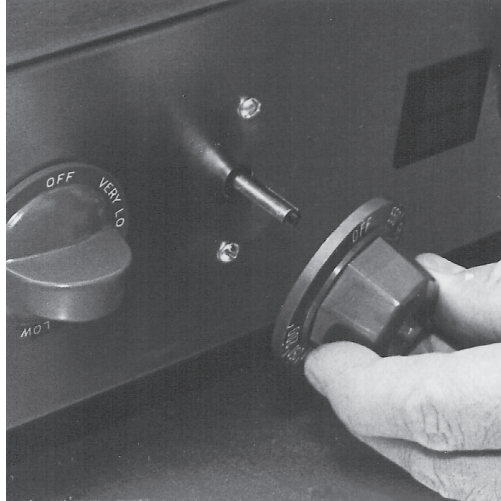

Fig. 3
2. Remove the thermostat knob. (Fig 3)